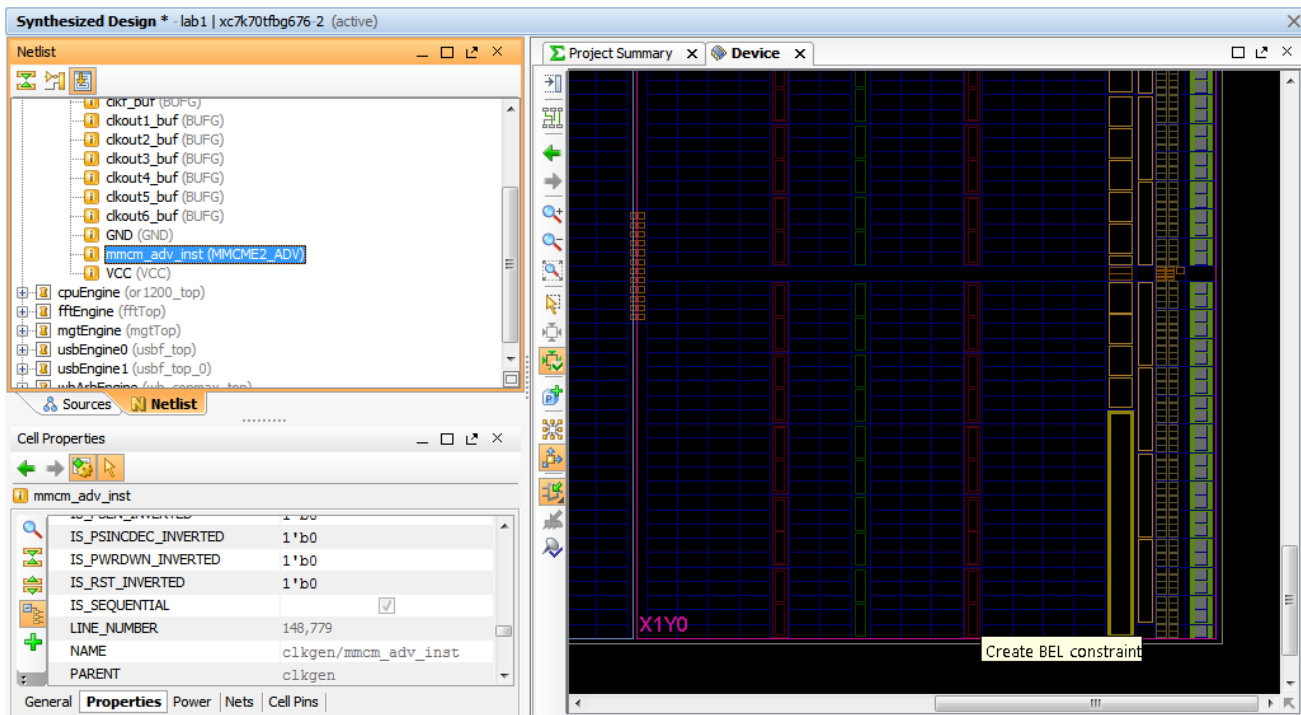

Figure 29: Placing the MMCM
6. Zoom into the bottom right of the Device view, to display the lower half of **Clock Region X1Y0**, to prepare for placing the selected object. See Figure 29.